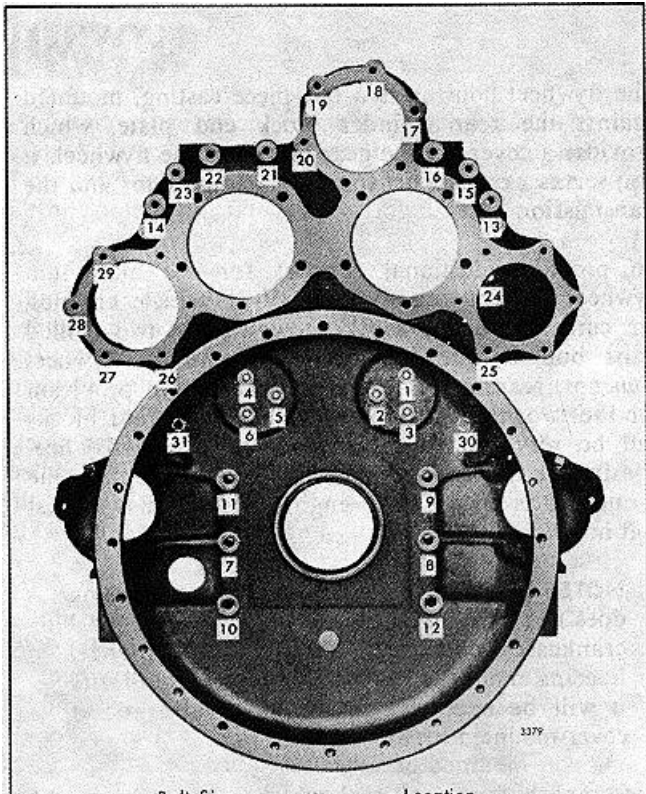
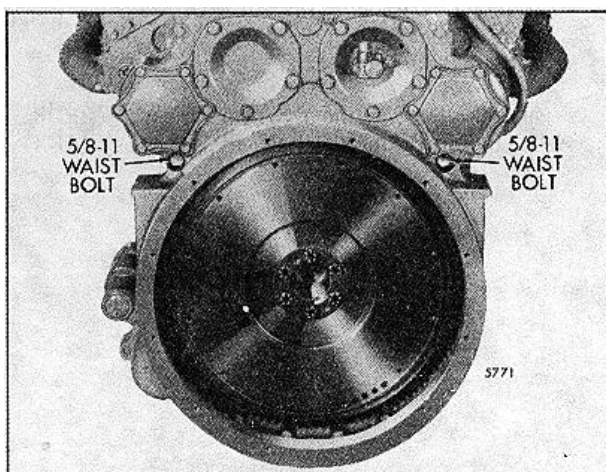

FIG. 4 - Flywheel Housing Bolt Tightening Sequence (Operation 2)
FIG. 5 - Waist Bolt Location
10. Refer to Fig. 4 for the final bolt tightening sequence and, starting at number 1, tighten all of the bolts to the specified torque. Tighten the 1/2"-13 bolts to 90-100 lb-ft (122-136 Nm) torque (cast iron housing) or 71-75 lb-ft (96-102 Nm) torque (aluminum housing). Tighten the 3/8"-16 self-locking idler gear hub and spacer bolts to 40-45 lb-ft (54-61 Nm) torque. Tighten the 3/8"-24 bolts to 25-30 lb-ft (34-41 Nm) torque and all remaining 3/8"-16 bolts to 30-35 lb-ft (41-47 Nm) torque. Be sure to rotate the crankshaft when tightening the idler gear hub bolts and flywheel housing bell bolts. Tighten the 5/8"-11 flywheel housing waist bolts (Fig. 5) to 137-147 lb-ft (186-200 Nm) torque, after tightening the other bolts in sequence.